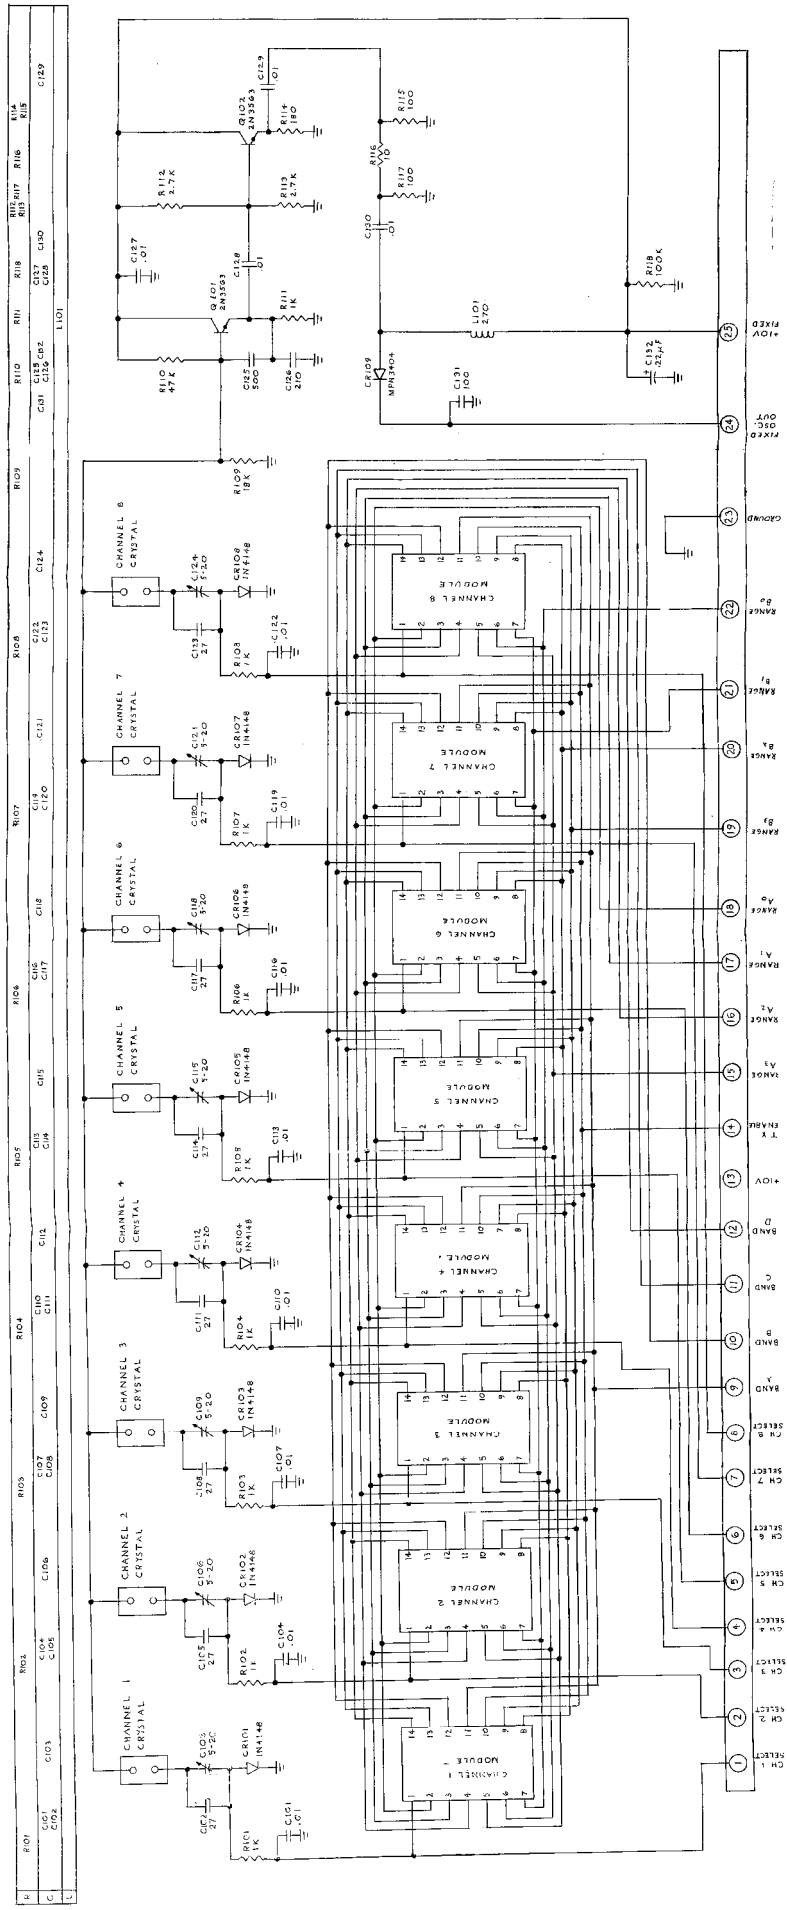

Fig. 4-5 AUX-7 Board Schematic
- 8) Refer to figure 4-5, and connect VTVM to test pad. Depress NB switch to activate Noise Blanker.